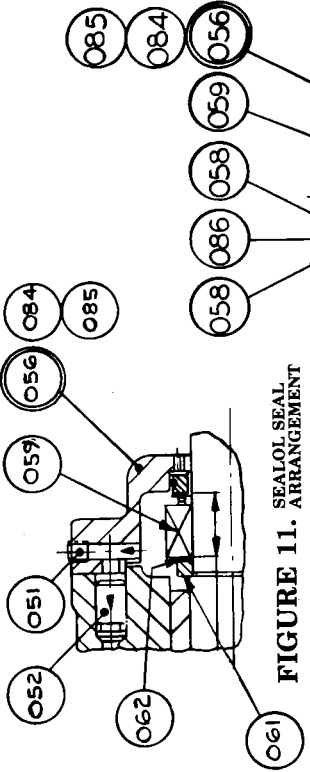

FIGURE 11. SEAL/OIL SEAL ARRANGEMENT
NOTE: O-ring (Figure 11) may be located on seal seat or in seal cover (056, Figure 12).
Sealol Seal (Figure 11): Slide mechanical seal (059) rotating assembly on power rotor (013) with drive collar fitted next to shim (062) and tighten set screws.